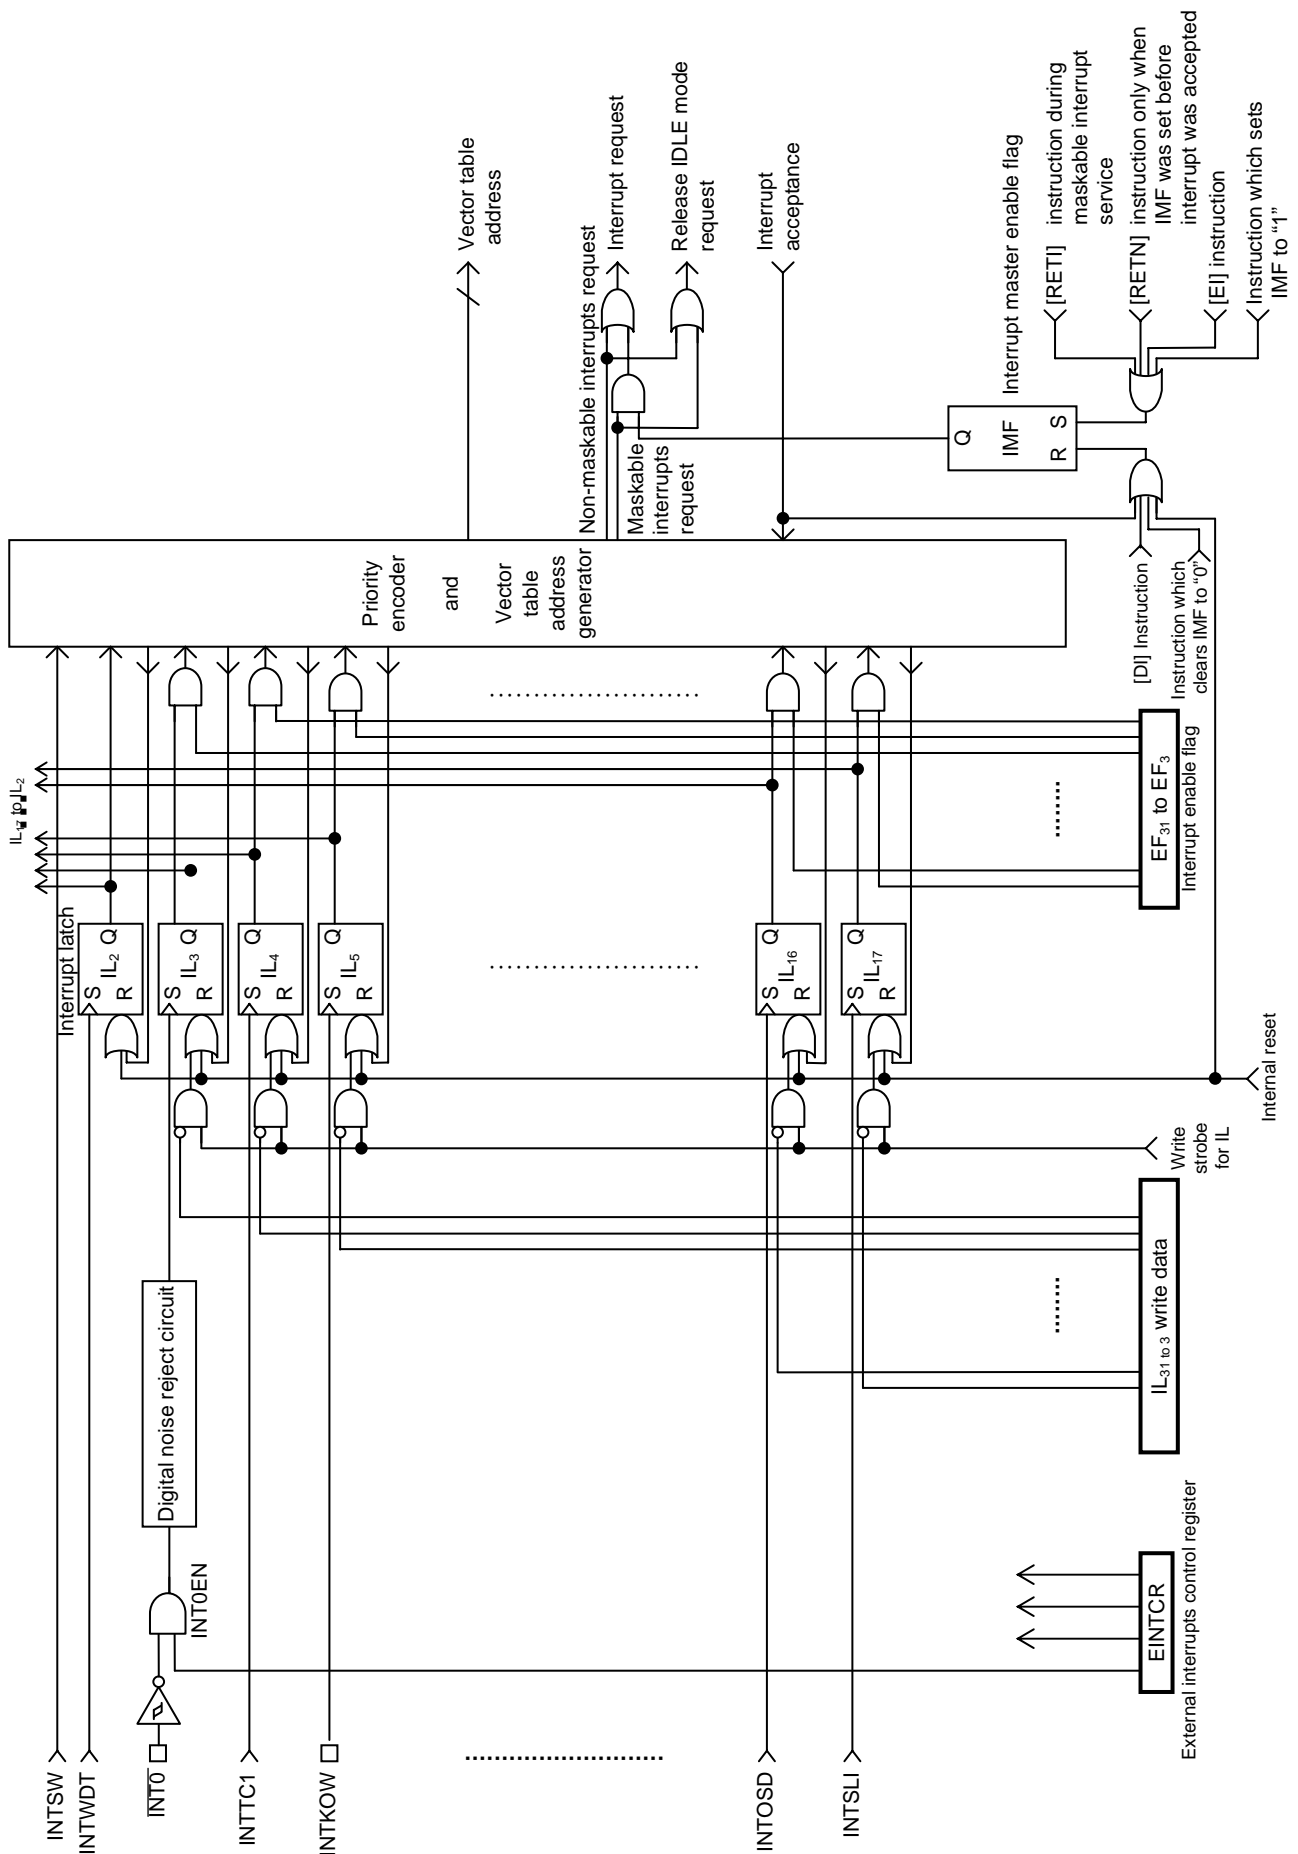

Figure 1.5.1 Interrupt Controller Block Diagram
The interrupt latch is set to “1” when an interrupt request is generated, and requests the CPU to accept the interrupt. The acceptance of maskable interrupts can be selectively enabled and disabled by program using the interrupt master enable flag (IMF) and the individual interrupt enable flags (EF). When two or more interrupts are generated simultaneously, the interrupt is accepted in the highest priority order as determined by the hardware. Figure 1.5.1 shows the interrupt controller.
(1) Interrupt latches (IL₃₁ to IL₂)